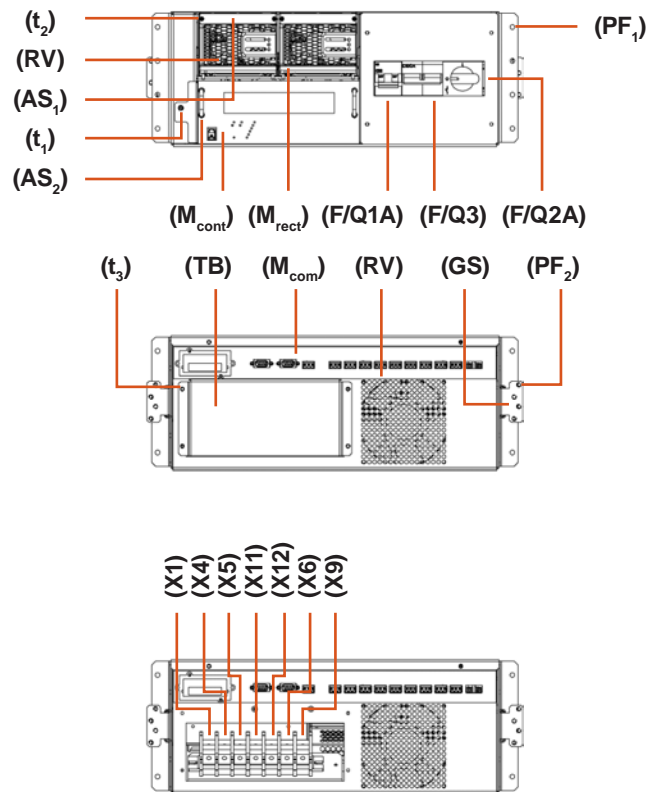

Fig. 2. 19" subrack and 4U height view.
The basic and minimum structure of the DC Power-S system is the subrack version (See Fig. 2), which will be made up by:
- 19" Subrack with 4 U height and designed to be installed in a cabinet by means of the fixing guides (See Fig. 2).